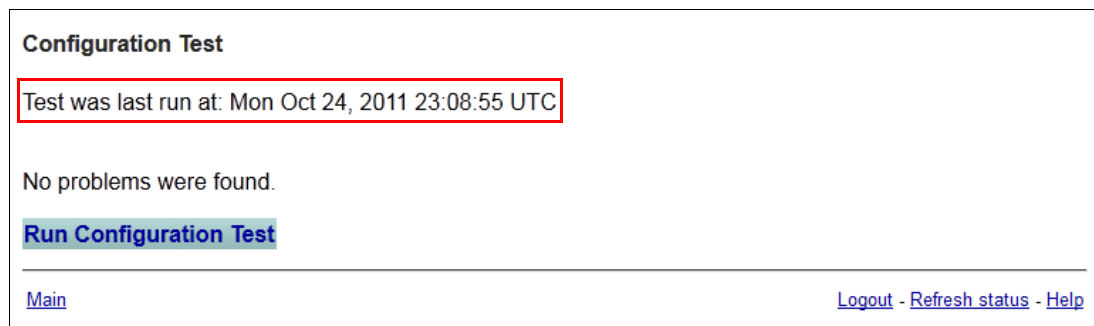

Figure 6-24 RSM configuration test complete
26. When the test is complete, the date and time of the last run is displayed as shown in Figure 6-24.
Check the activity log (as shown in Figure 6-24 on page 480) and verify that the trap was received. The activity log will contain a entry as shown in Example 6-2.